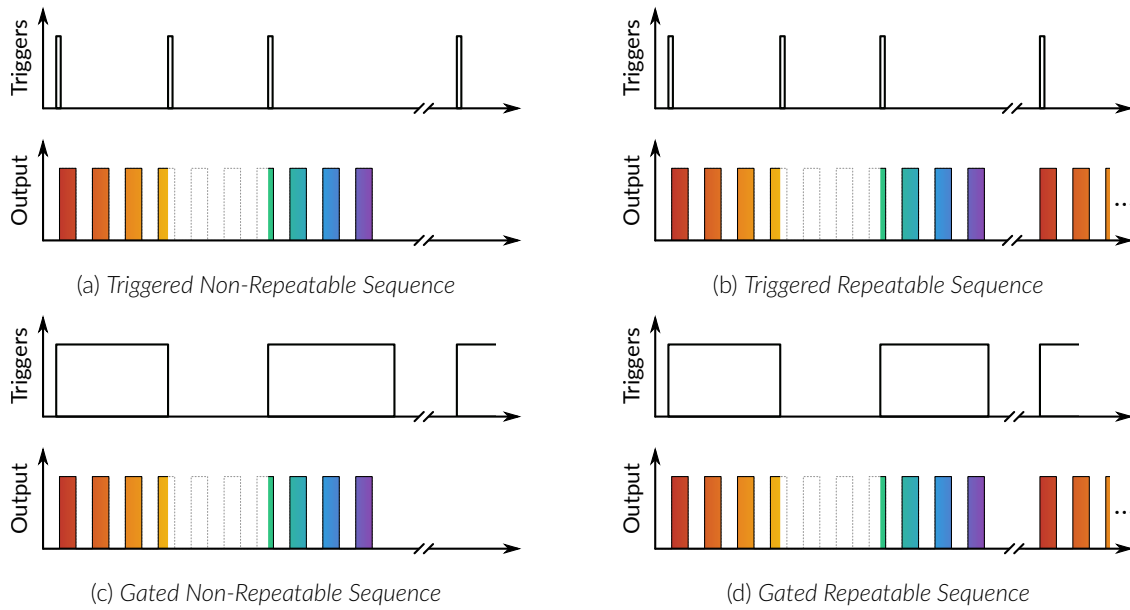

Figure 9.6: Continue Sequence Mode.
- **Continue:** This mode activates the channel sequence when a rising edge greater than 3.3 V is detected on the BNC input (Fig. 9.6). The following input pulse (when *Triggered*, Fig. 9.6a) or a falling edge (when *Gated*, Fig. 9.6c) will turn off the output, but the sequence will continue. The output will be turned back on at the reception of the following rising edge. Triggers only affect the output voltage value. When the **Repeatable sequence** checkbox is checked, the sequence will restart with the arrival of the first input pulse after the sequence has finished (Figs. 9.6b and 9.6d).